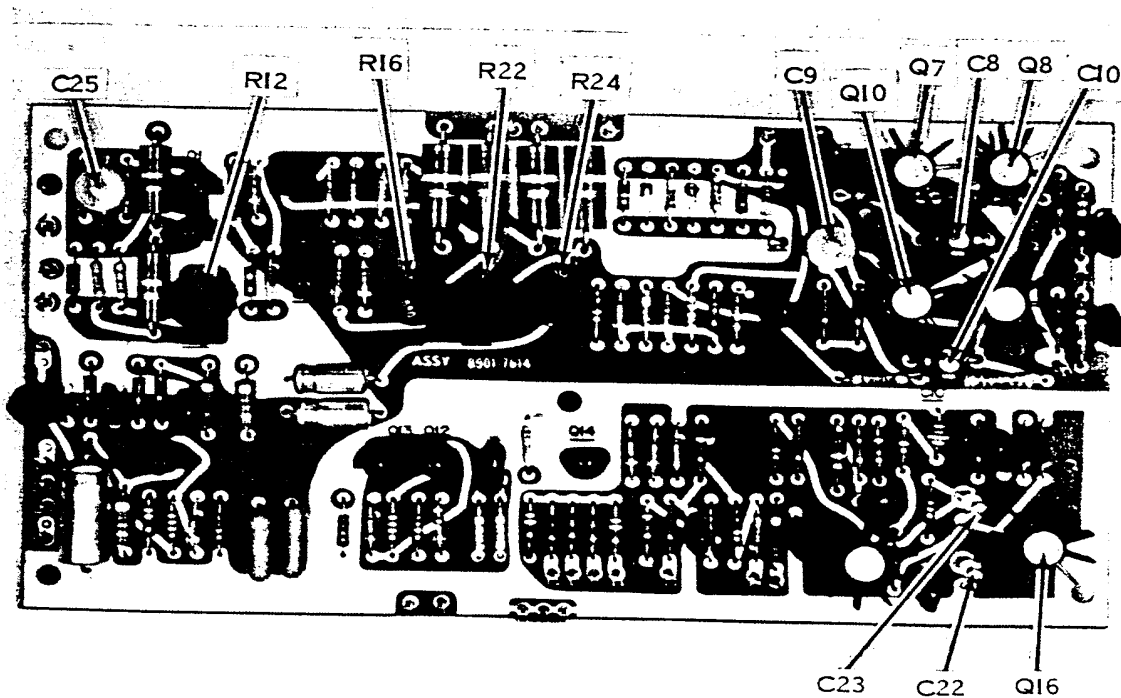

Figure 6. Horizontal amplifier, test point location.
(4) Adjust CRT BIAS ADJ A1A2R12 (fig. 6) for 50 volts indication on digital voltmeter (R).
(5) Adjust A1A2R24 (fig. 6) for no shift of spot as X10 VERNIER control is pulled out and pressed in (R).